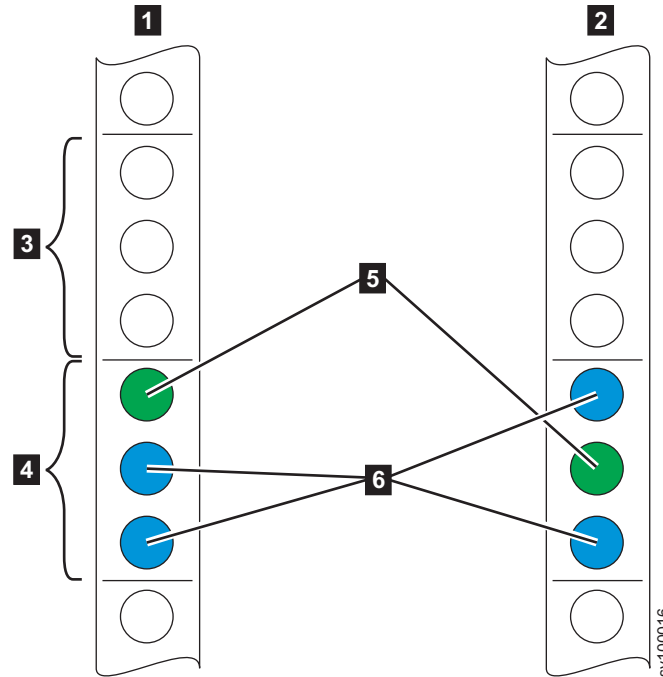

Figure 18. Identifying rack space
2. Select an available 2U space (depending on the node you are installing) in your rack to install your node, as shown in Figure 18.